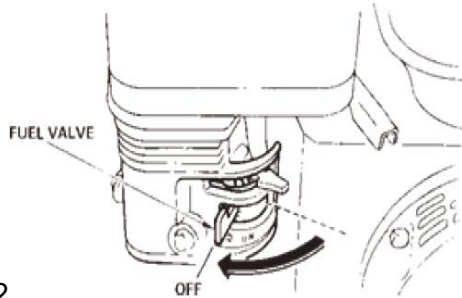

FIG.13
10.3 Close the fuel shut-off valve (FIG. 13) by moving the fuel valve lever to the OFF position.